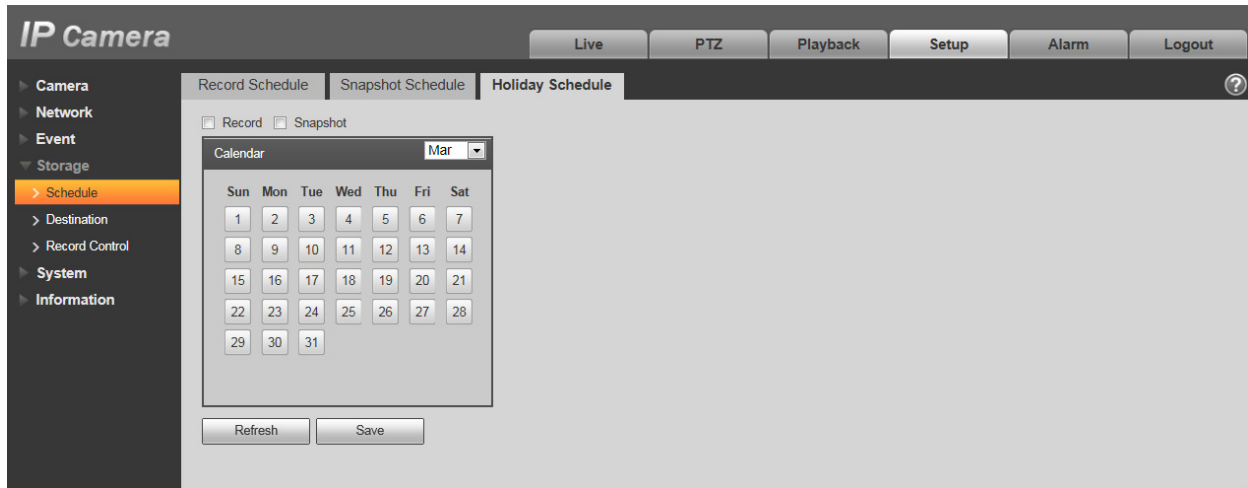

Figure 5-95
Step 1. Click on Holiday Schedule tab, see Figure 5-95.